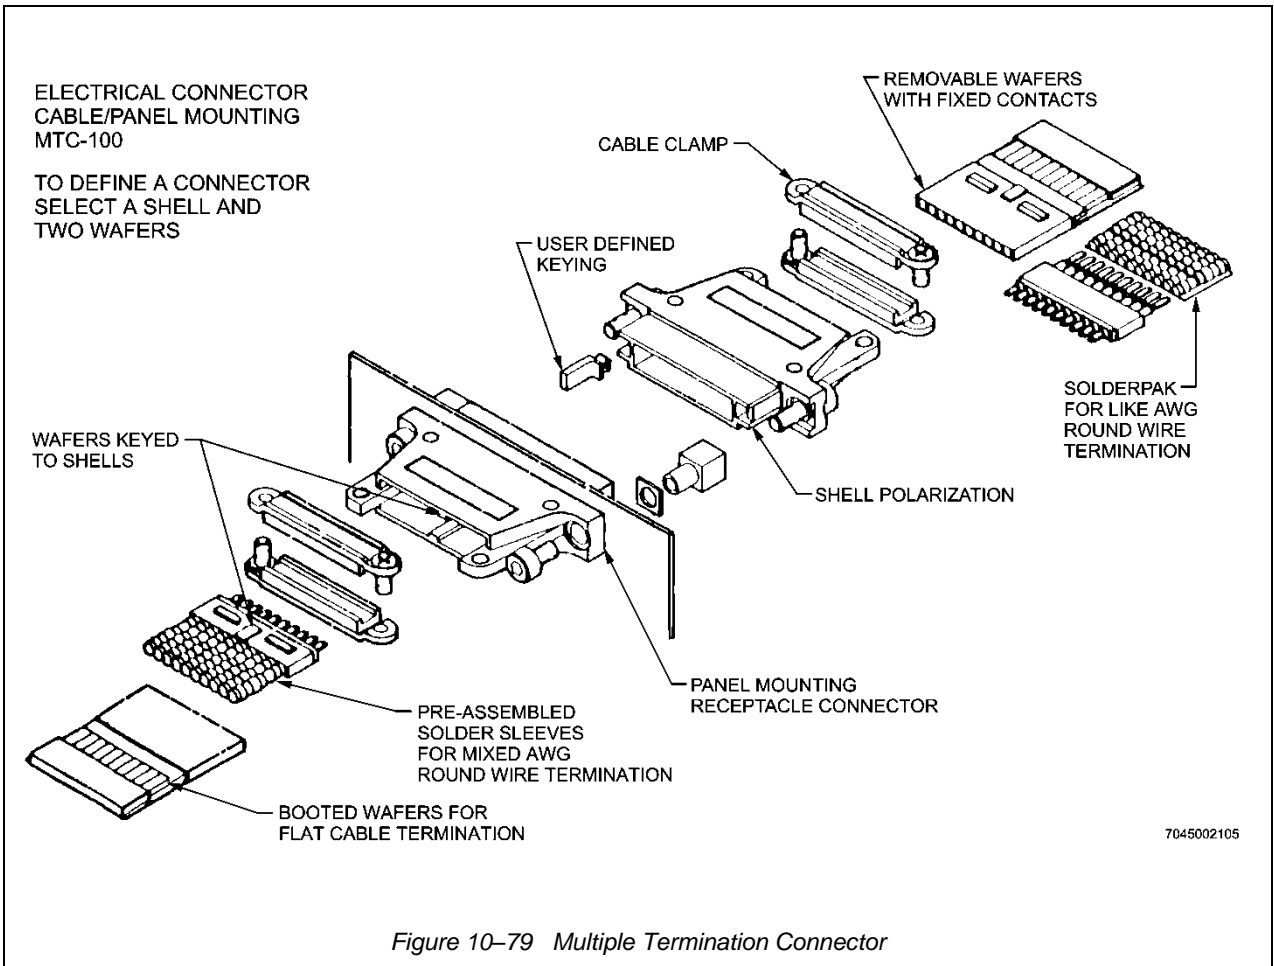

Figure 10–79 Multiple Termination Connector
- g. Remove assembly from fixture and inspect in accordance with Figure 10–79.